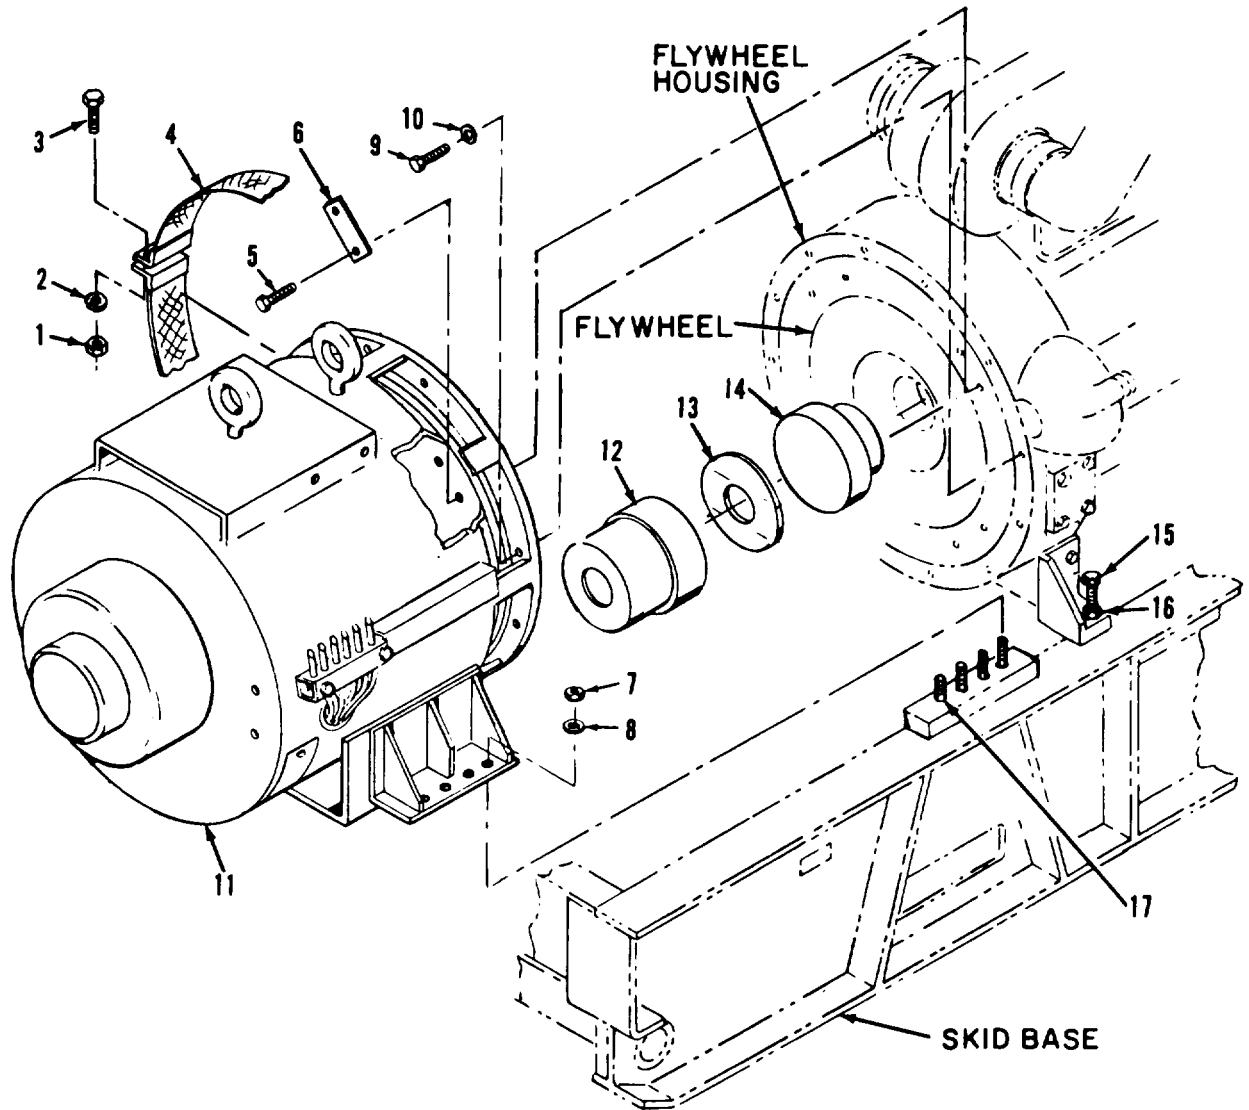

Figure 2-5. Generator, removal and installation
5. Refer to figure 2-5 and disconnect screen (4) by removing nuts (1), lock washers (2), and screws (3).
Legend to figure 2-5:
9. Disconnect screen (4, figure 2-5) by removing nuts (1), washers (2), and screws (3).